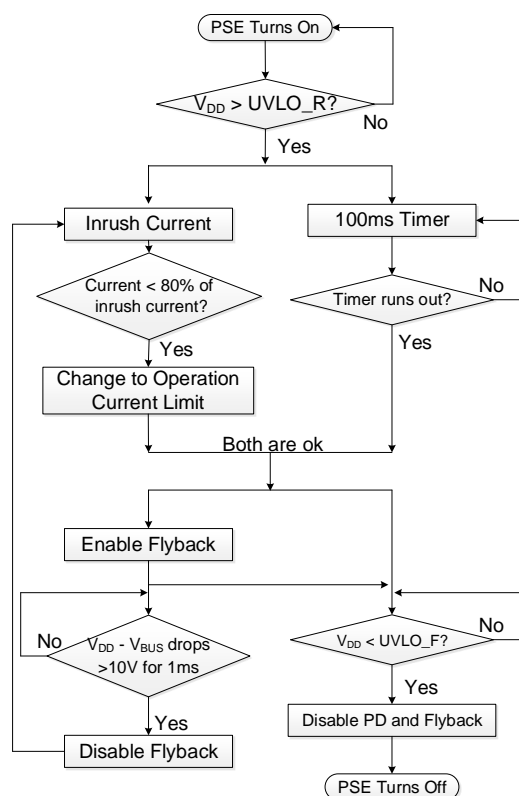

Figure 2: Start-Up Sequence
After a delay (t_{DELAY}) from when under-voltage lockout (UVLO) begins, the MP8017 asserts an internal enable (EN) signal. After the inrush period, the MP8017 goes from start-up mode to running mode. The internal EN signal can enable the flyback converter internally (see Figure 2).
Figure 2 on page 18 shows the sequences for the current limit and internal EN signal during start-up from the PSE's power supply.